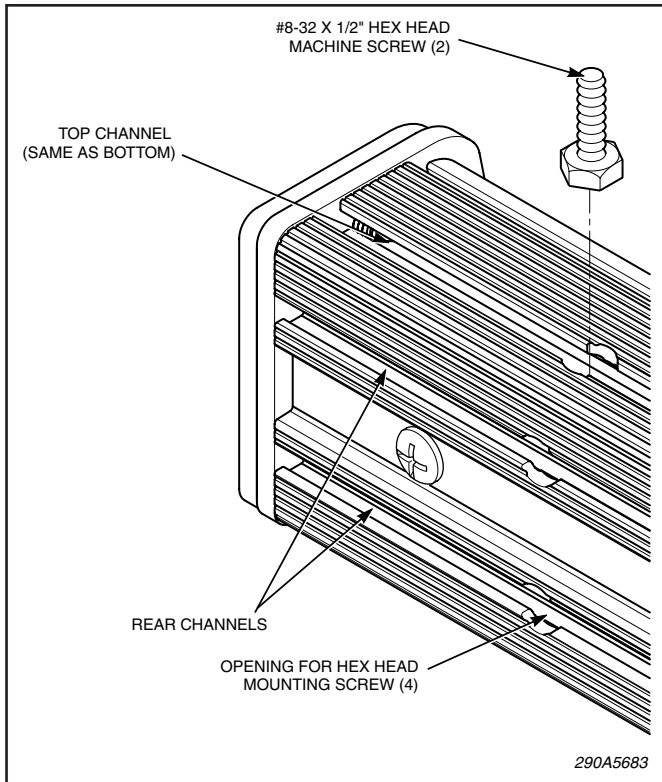

Figure 1.
1. Determine which side of the unit will be attached to the mounting surface. From a horizontal orientation, the top, bottom and rear surfaces of the unit are available for mounting. The top and bottom surfaces each have one mounting bolt channel and the rear surface has two (see figure 1). Choose the mounting channel that best suits your application.
2. See figure 1. Locate the opening in the selected mounting bolt channel and drop in two #8-32 hex head screws.